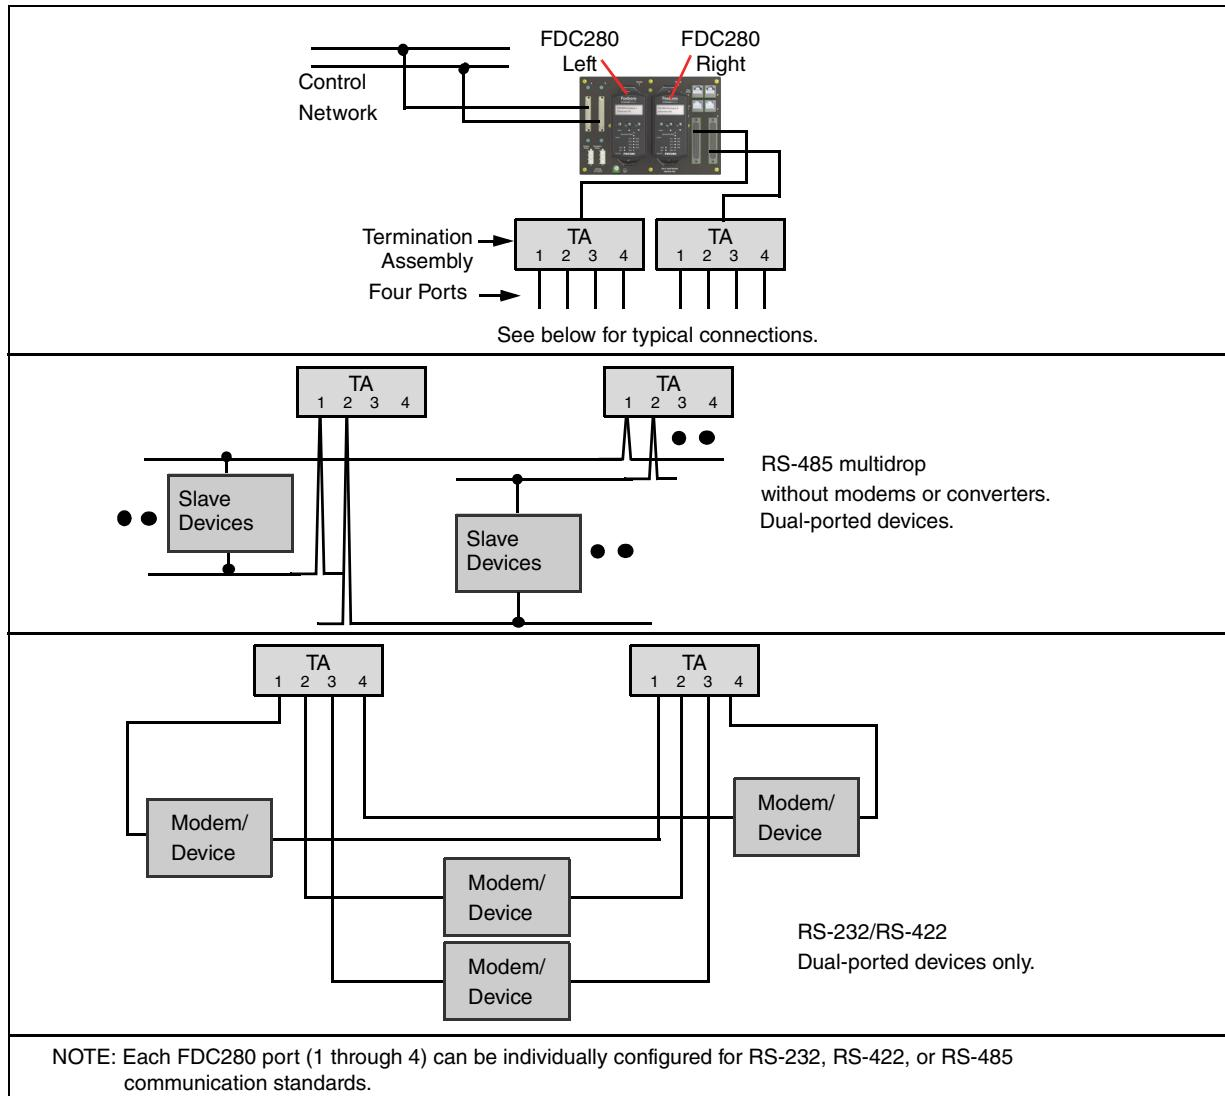
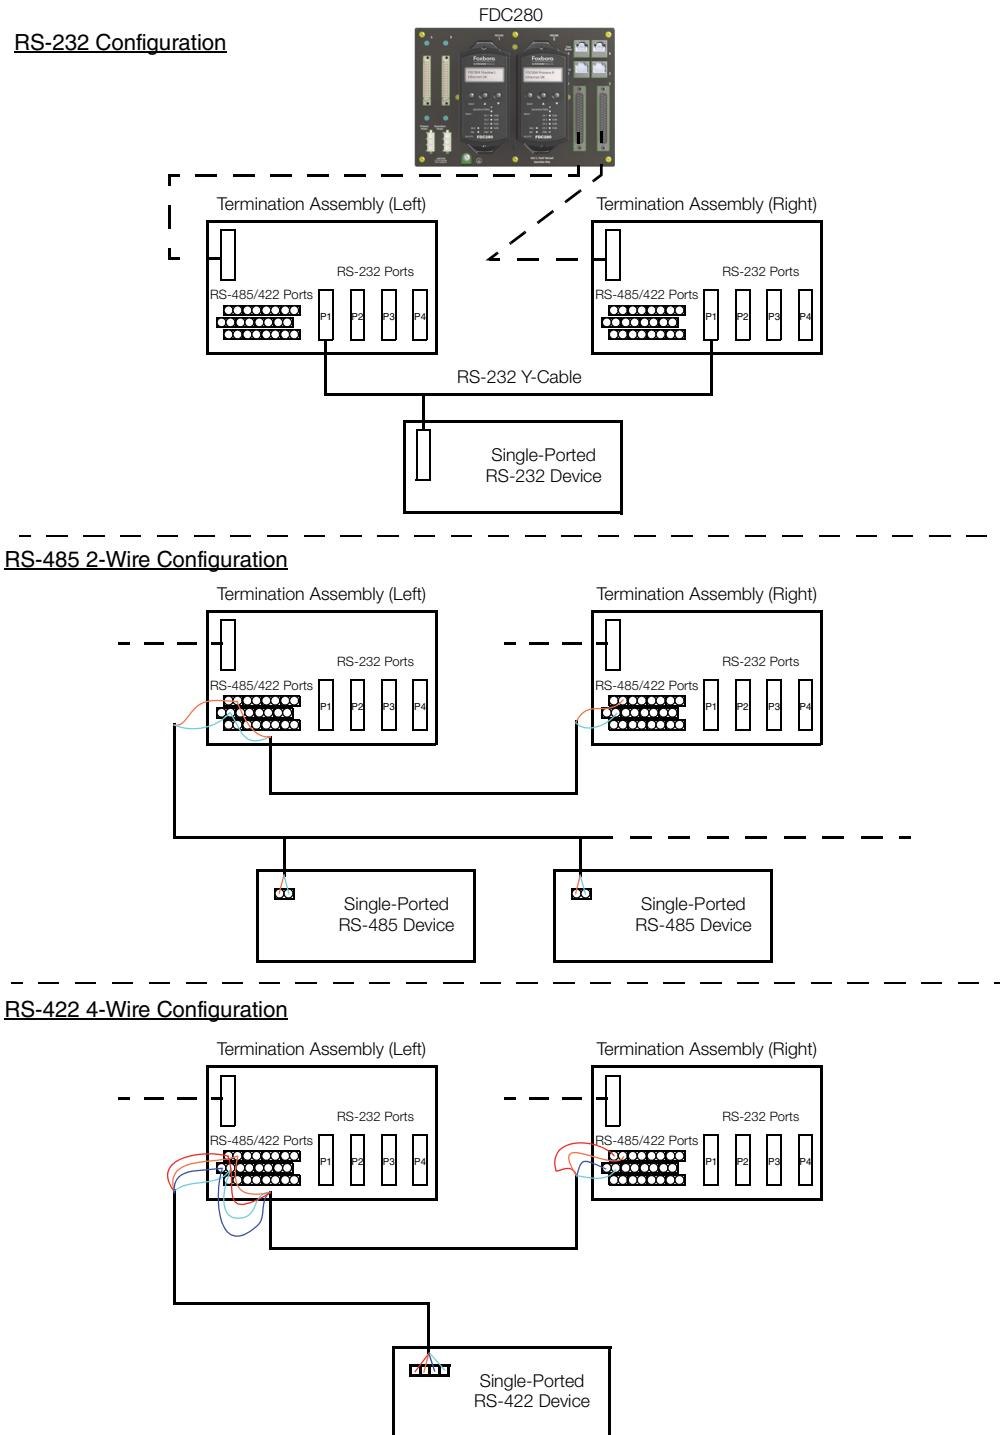

Figure 6. Fault-Tolerant FDC280 to Dual-Ported Serial Devices in Typical Network Configurations
Figure 7. Fault-Tolerant FDC280 to Single-Ported Serial Devices in Typical Configurations
Fault-tolerant FDC280s can connect to Serial field devices via supported termination assemblies as shown in Figure 6 and Figure 7.
- ▶ Offers unique, patented, fault-tolerant operation using two control modules for communications over the Foxboro Evo Control Network. The FDC280 always supports redundant communications to the customer-supplied network which connects to the field device. However, if the field device is single-ported, the redundant cabling can only be extended to the switch if the device is Ethernet or the TA if the device is Serial. Refer to Figure 4 and Figure 7.